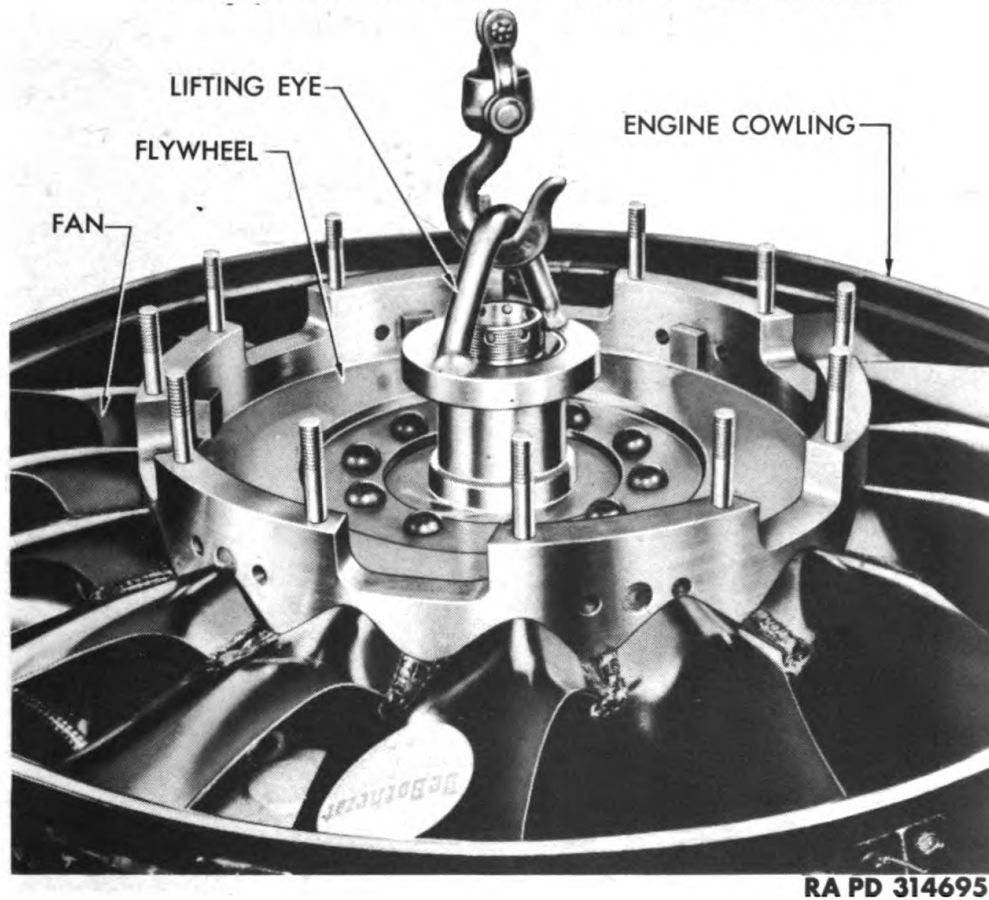
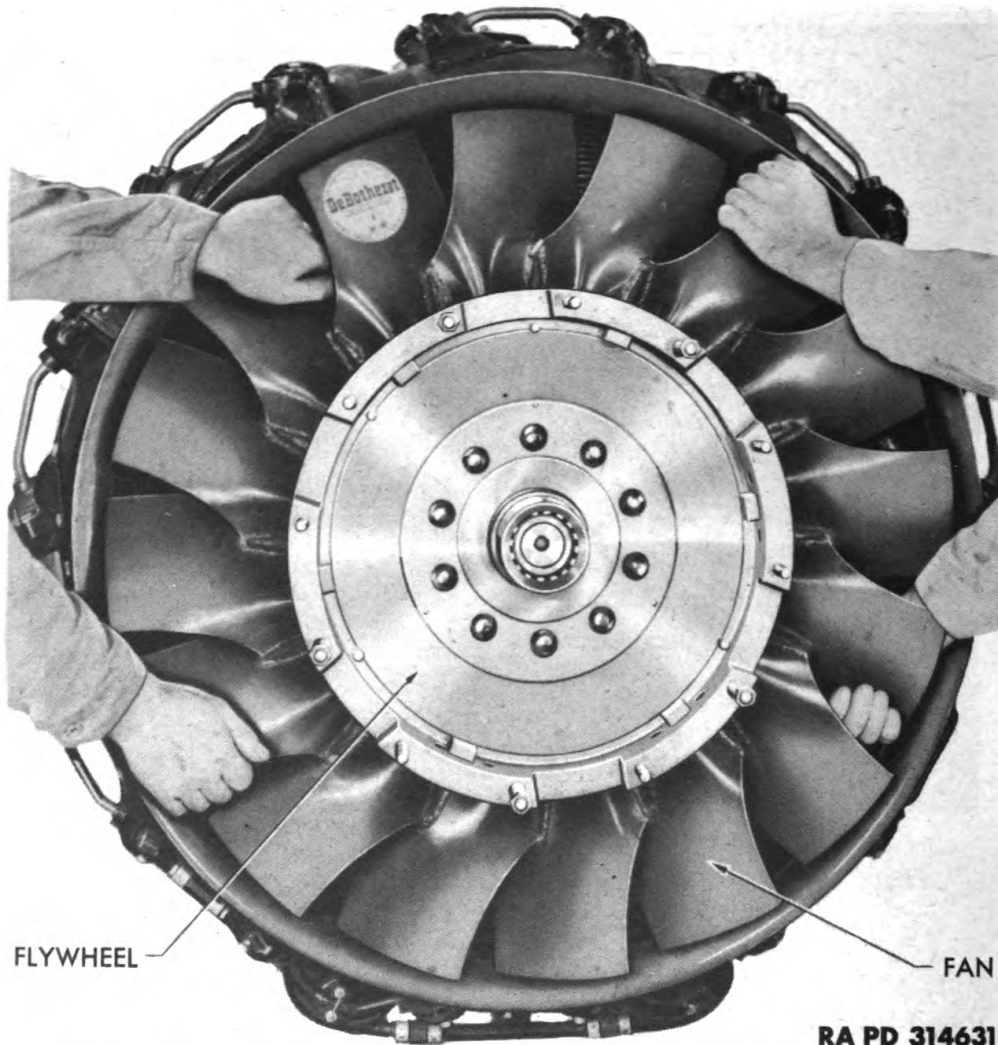

Figure 23 – Removing Flywheel and Fan Assembly with Lifting Eye
Figure 24 — Removing Flywheel and Fan Assembly
d. Remove Flywheel and Fan Assembly. Remove cotter pin from the retaining pin which locks the front cone nut on crankshaft, and remove washer and retaining pin (fig. 21). Insert bar through holes in front cone nut; loosen and remove nut (fig. 22) and split cone. Using a lifting eye (fig. 23), or with the help of another person, lift or slide flywheel and fan assembly off crankshaft splines (fig. 24). Screw protector cap on threads at end of crankshaft.